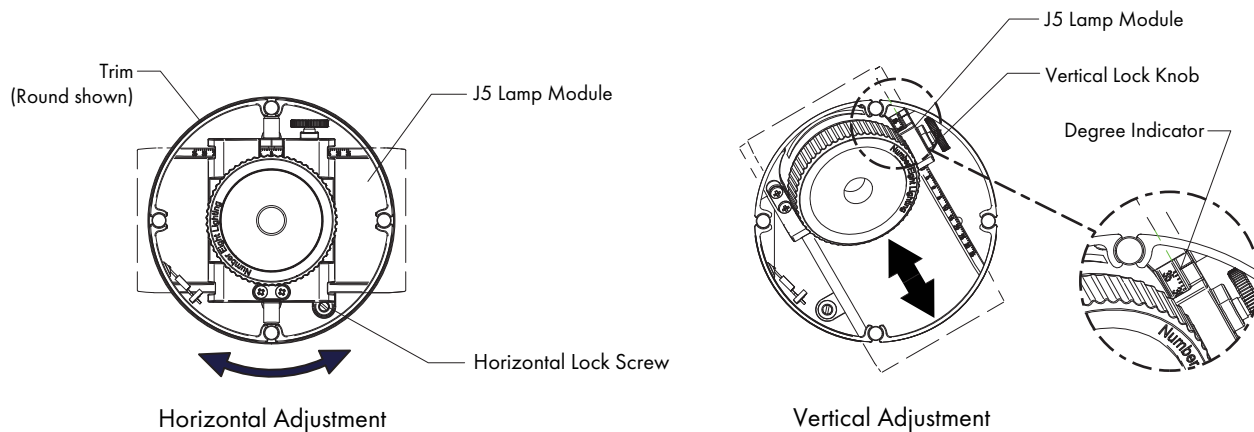

FIG 9.1 J5 Aiming Adjustment
Use Horizontal Lock Screw to secure the horizontal adjustment - **FIG 9.1**.
STEP 2 Loosen Vertical Lock Knob and adjust J5 Lamp Module to desired vertical aiming position. Tighten Lock Knob to secure the vertical adjustment - **FIG 9.1**.